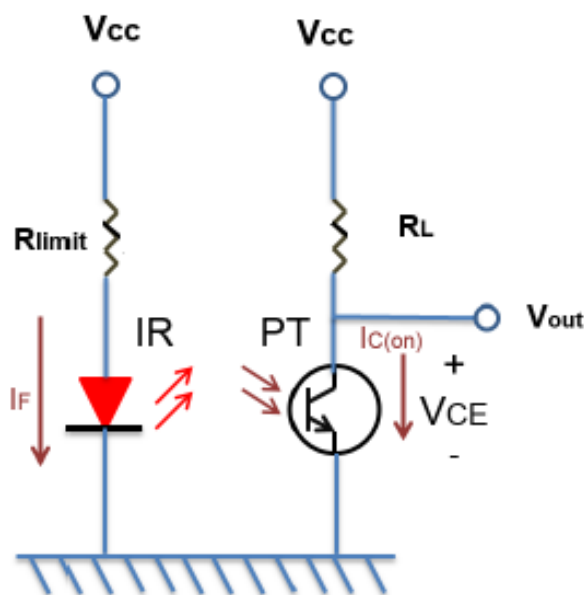

Figure 1. IR LED and PT basic circuit application
As technology improve, every electronic companies have higher expectation in automation accuracy, more companies are using sensor components to improve automation accuracy. Most sensors use IR to avoid human eyes effect by surrounding products or equipment light interference. This application note will use IR LED and photo transistor (PT) to detect rotation direction application. IR LED and PT basic circuit application in figure 1